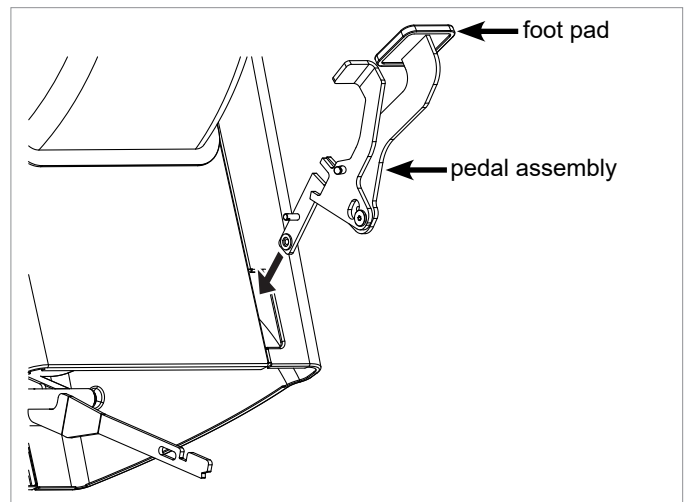

Fig. 30
12. Locate the pedal assembly and insert it into the hole in the left side of the cabinet as shown in Fig. 30. Insert the pedal assembly as far as possible and make sure that the foot pad is facing up.